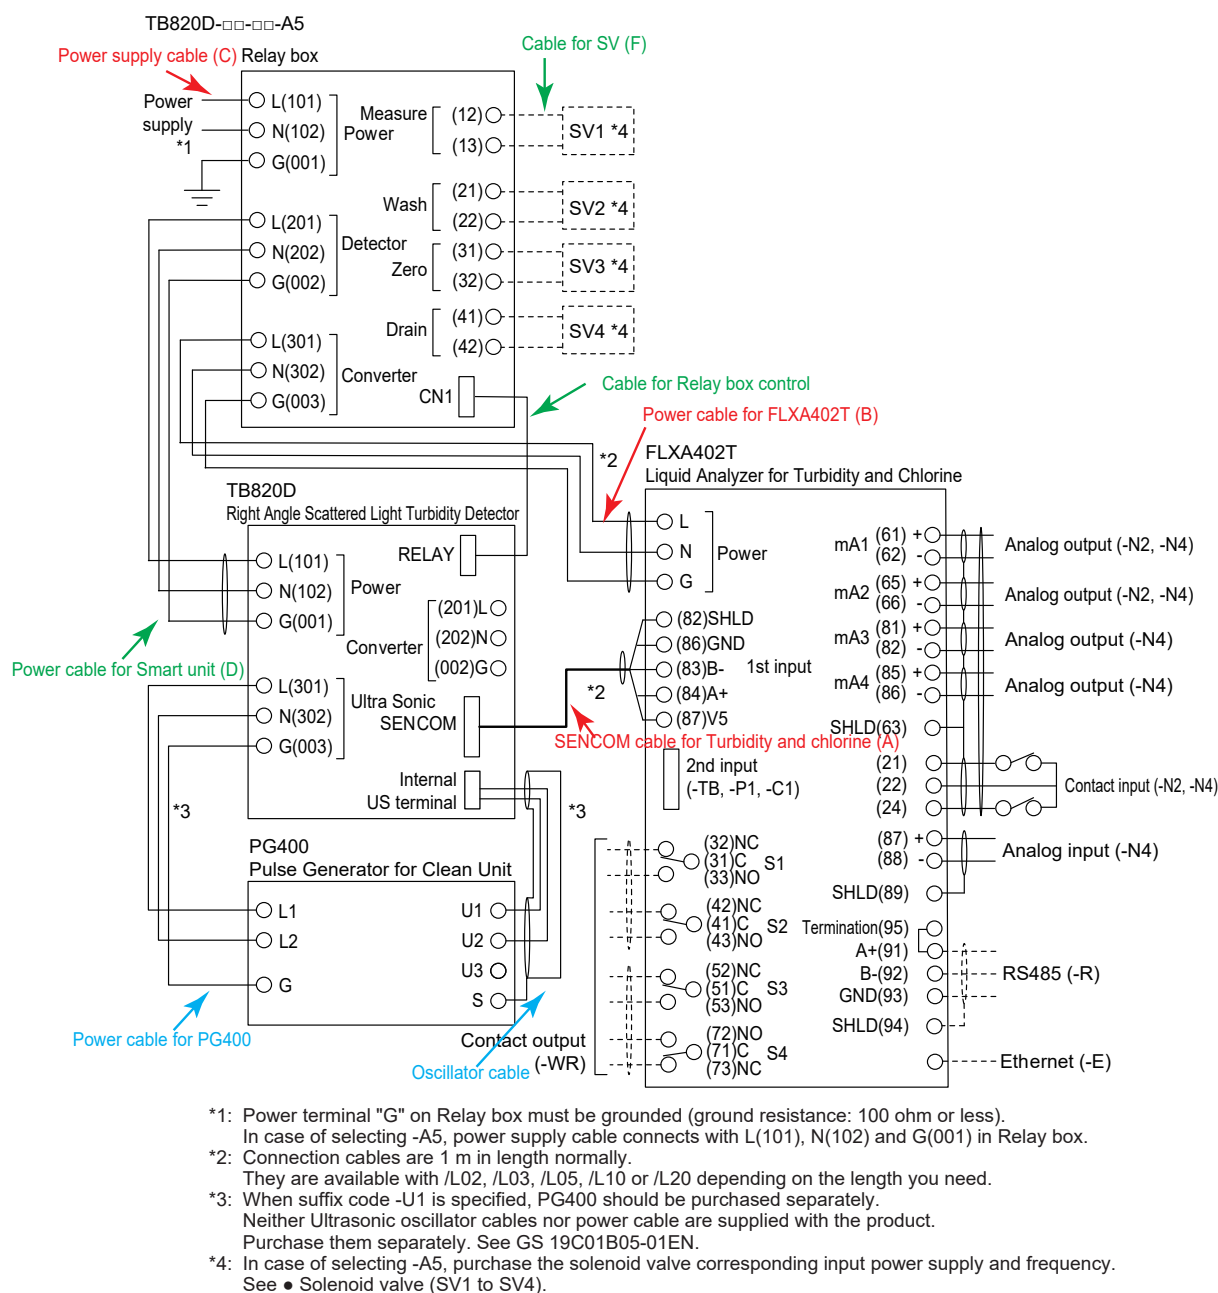
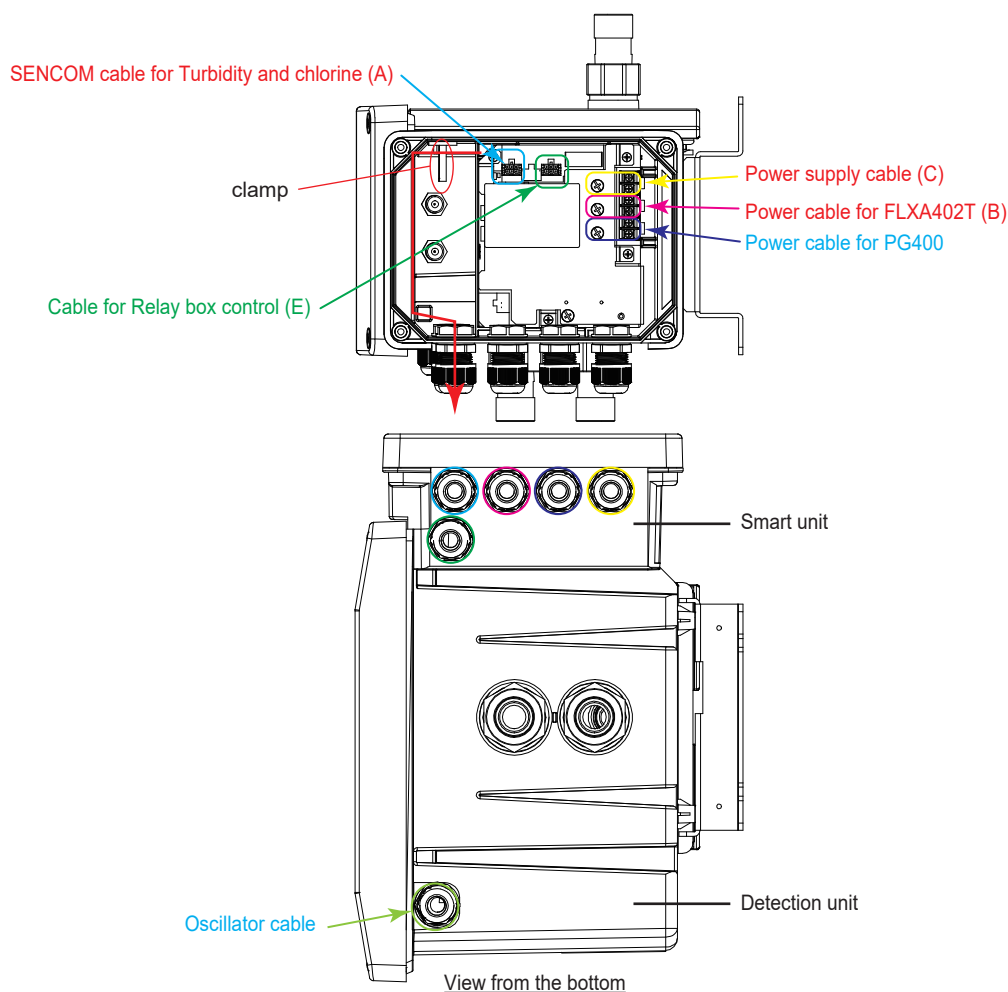
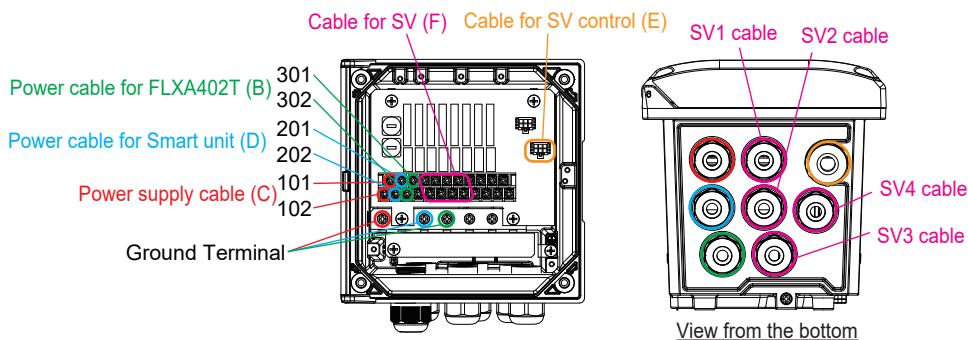

Figure 49
Figure 50 Wiring TB820D Smart unit side
Figure 53 Wiring Relay Box
Provide wiring of Oscillator cable and Power cable for PG400, by referring to Figure 48, Figure 49, or Figure 50.
When the suffix code -A5 (Relay box for solenoid valve) is specified, a Relay Box is included as shown in the Figure 49. Wire the cables of Power cable for Smart unit (D), Cable for Relay box control (E), and Cable for SV (F).
Fasten the M3 screw (L, N) with the tightening torque of 0.6 N·m, M4 screw (G) with 1.4 N·m. (Figure 53)
■ Cable for Relay box control (E)
Connect to the designated connector by referring to Figure 49, Figure 53.